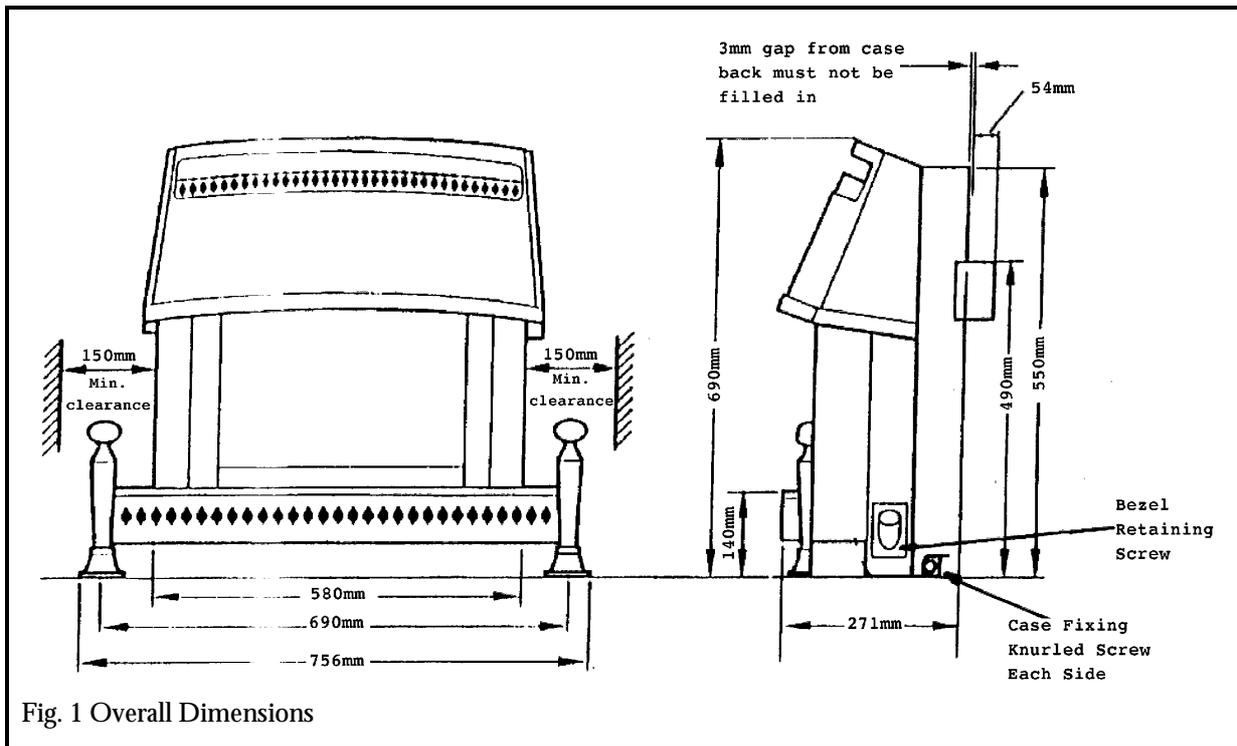

Fig. 1 Overall Dimensions
The overall dimensions are shown in Fig.1
**2.13** A minimum side clearance of 150mm measured from the case rear sides must be maintained on all installations to allow easy operation of the control knob and to give access for removing the outer case when servicing - see Figure 1.
**2.14** The space between the fireplace front face and the back of the outer case must not be filled in - see figure 1.
- 6.4 Detach the control bezel by removing the knurled screw below the control knob opening (see figure 1).
- 6.5 Remove the knurled screws at the case sides (see Fig.1)